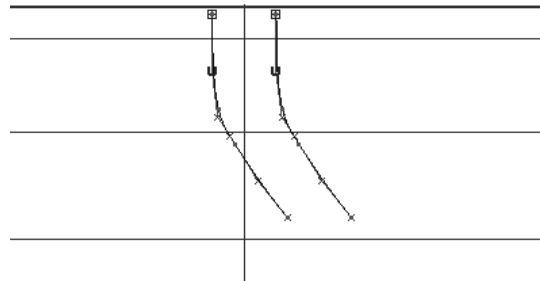

Figure 7-82 Duplicate copy of the first curve after moving it to a new position
4. Next, choose the **Move** button from the **Transform** tab in the **Palette** and drag the duplicate curve to a new position, as shown in Figure 7-82.